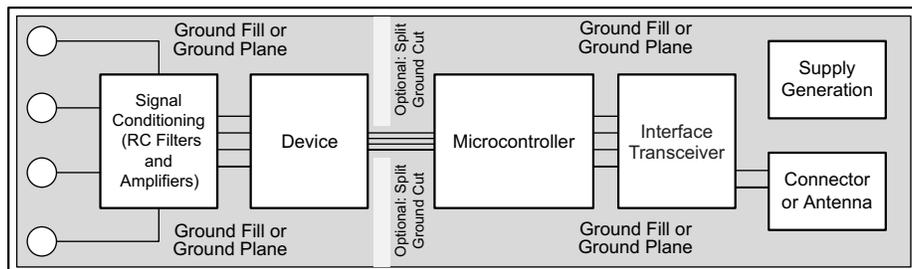

Figure 36. System Component Placement
Employing best design practices is recommended when laying out a printed-circuit board (PCB) for both analog and digital components. This recommendation generally means that the layout separates analog components [such as ADCs, amplifiers, references, digital-to-analog converters (DACs), and analog MUXs] from digital components [such as microcontrollers, complex programmable logic devices (CPLDs), field-programmable gate arrays (FPGAs), radio frequency (RF) transceivers, universal serial bus (USB) transceivers, and switching regulators]. Figure 36 shows an example of good component placement. Although Figure 36 provides a good example of component placement, the best placement for each application is unique to the geometries, components, and PCB fabrication capabilities employed. That is, there is no single layout that is perfect for every design and careful consideration must always be used when designing with any analog component.